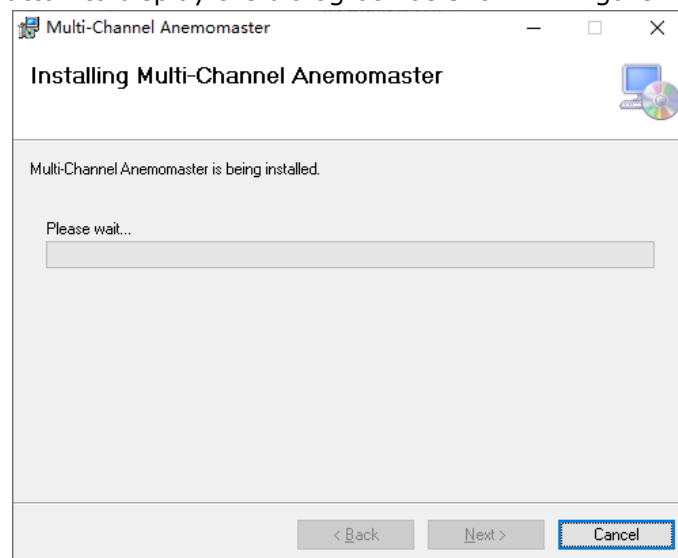

Figure 2-4 Installation progress Dialog Box
4) Click the **(N)** button to display the dialog box as shown in Figure 2-4.